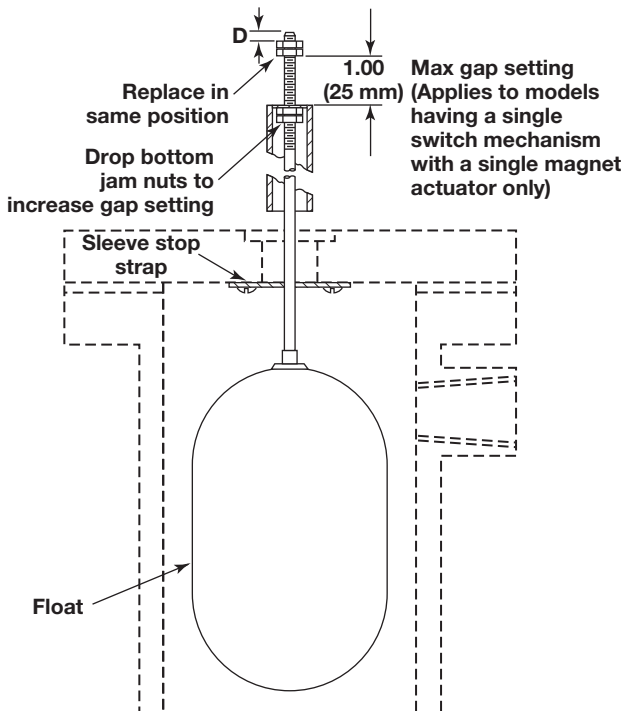

Figure 8
10. Measure the distance "D" from the top edge of the upper jam nuts to the top of the float stem. Refer to Figure 8. Record this measurement.
12. Loosen and adjust lower jam nuts to the desired position. Tighten lower jam nuts securely. Refer to Figure 8.
14. Replace upper jam nuts and guide washer on the stem in the position previously noted. Tighten upper jam nuts securely. Refer to Figure 8 on page 9.